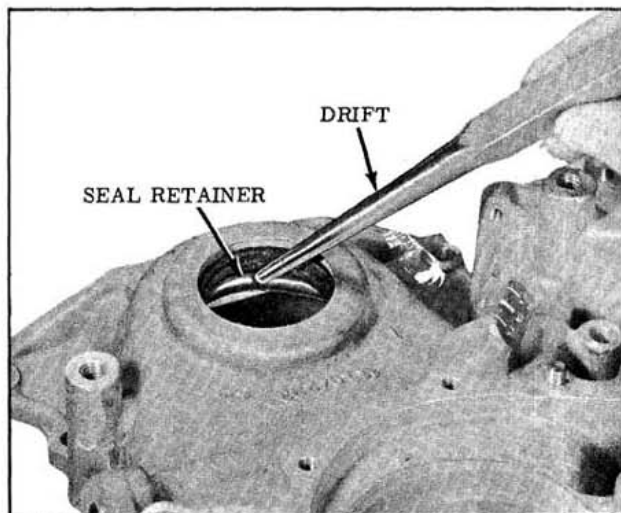

Fig. 3-18 Removing Front Oil Seal
3. Remove seal retainer with drift. (Fig. 3-18)